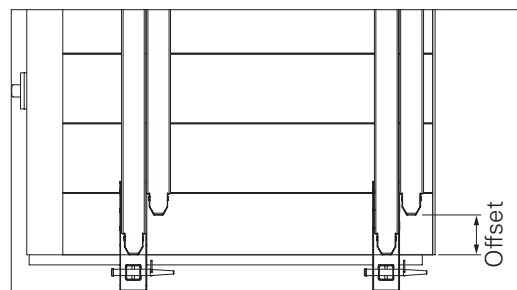

Fig. B5.05a
- If the platform beams are only slightly displaced, screw the Multi guardrail post holders in tight before installing the platform beams. Screw holes may otherwise be covered. (Fig. B5.05a)